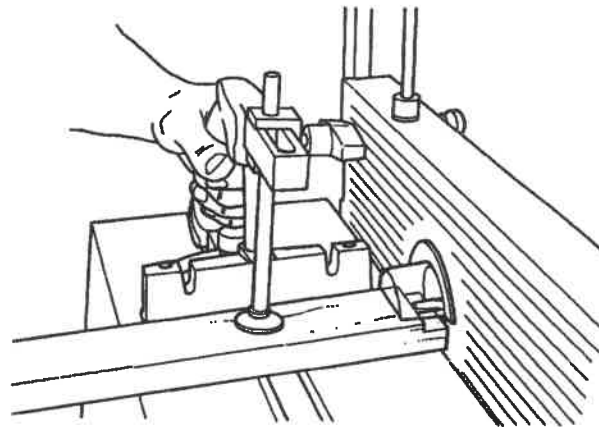

Fig. C-20
10. Install the guard (13) on the slide and place the miter gauge in the miter channel. Place workpiece "A" against the miter gauge and adjust its hold down clamp. See Fig. C-20.